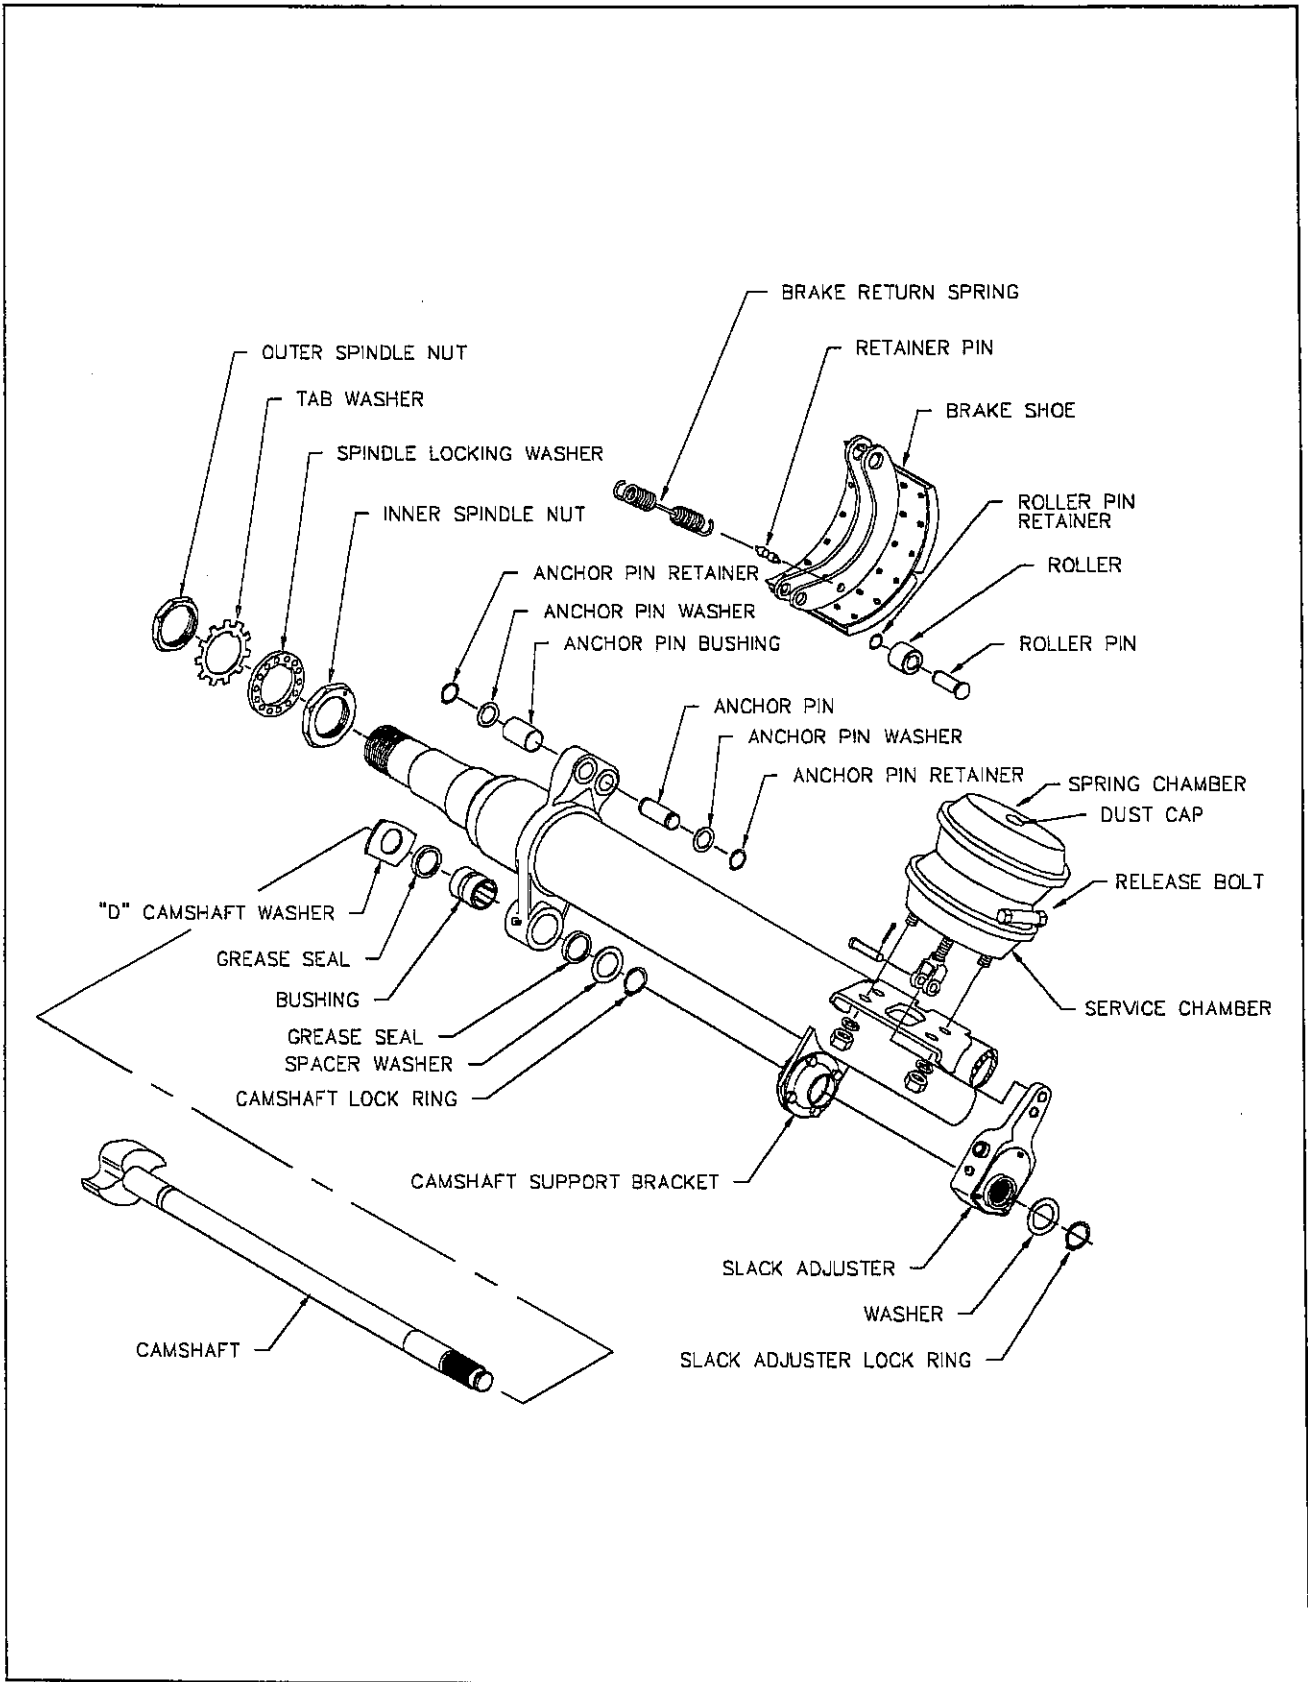

Figure 4-10 Axle and Brake Assembly
2. Remove dust cap from the rear of the spring brake chamber (see Figure 4-10).
**b. Disassembly for 12-1/4" X 7-1/2" Brakes (see Figure 4-10)**